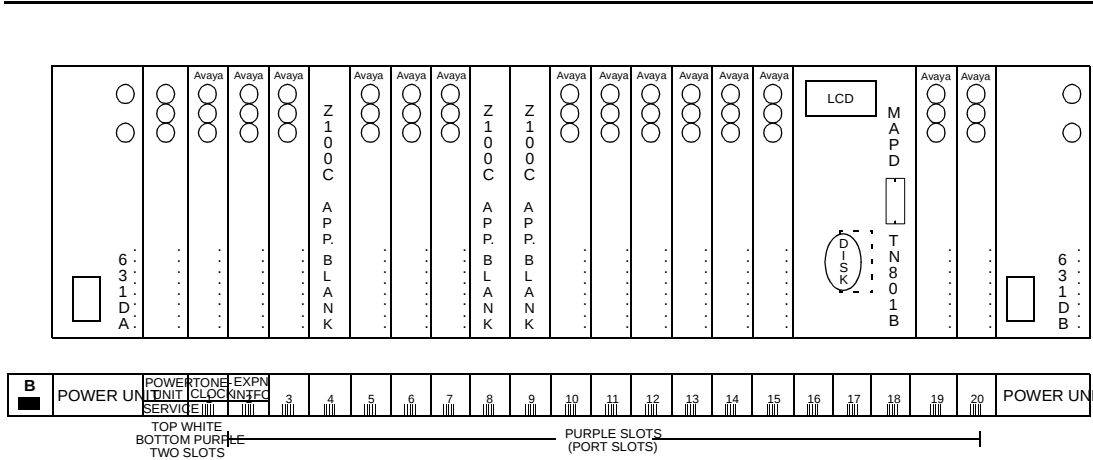
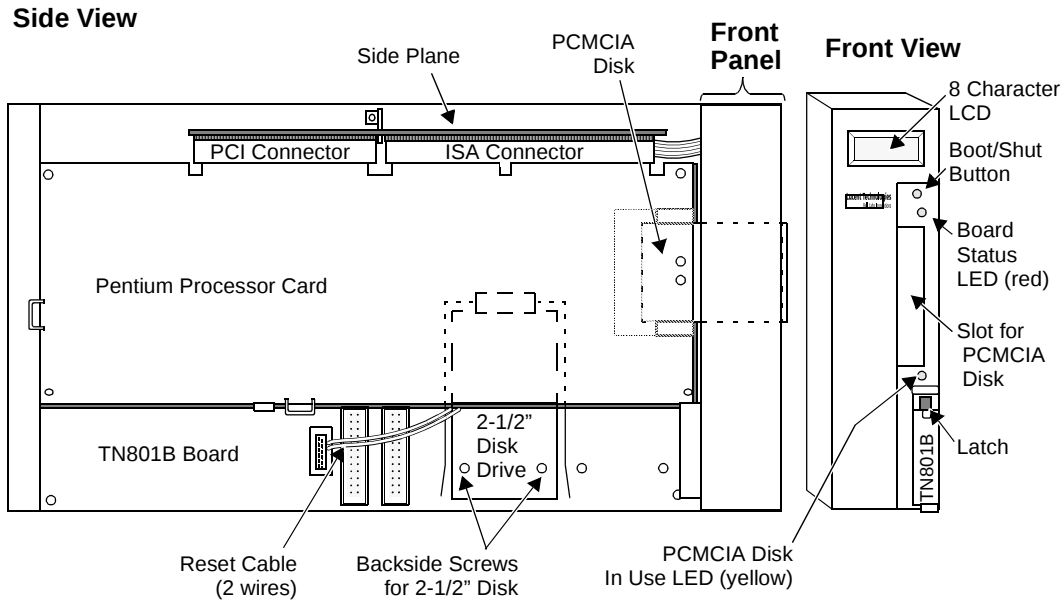

Figure 2-1. MAPD System in a DEFINITY System Carrier
Figure 2-6. MAPD System Assembly (J58890MA-1)
- DEFINITY ECS System carrier — three contiguous slots. For example, slots 16 to 18 (see Figure 2-1). Any slots can be used
This section provides a diagram of the complete MAPD system assembly (Figure 2-6) along with a diagram of the eight-character LCD display on the front panel of the TN801B MAPD (Figure 2-1.)